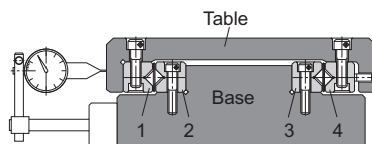

Fig.1 Installation of the Cross-Roller Guide
- (3) Place the base and the tables as shown in Fig.1, and then insert the roller cage from the end. If the cage does not enter because there is no clearance, slide rail 4 toward the adjustment bolt first, and then insert the cage again.
- (4) Place a dial gauge as shown in Fig.1. Then, lightly screw all adjustment bolts evenly until the clearance is almost eliminated while gently pressing the table sideways.
- (5) Attach the stopper to the rail end.
- (6) Slide the table and adjust the cage position so as to achieve the required stroke.